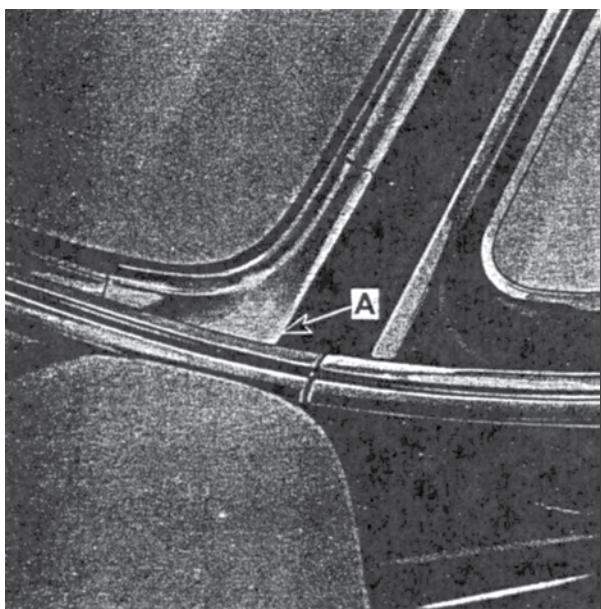

Fig. 19 – Corner Reveal Molding Disengagement
9. Carefully work the windshield assembly outward and upward to disengage the rubber channel lip from the lower pinch-weld flange. On Bel-Air and 210 series bodies, disengage the flange of each corner reveal molding "A" from the belt molding (fig. 19).